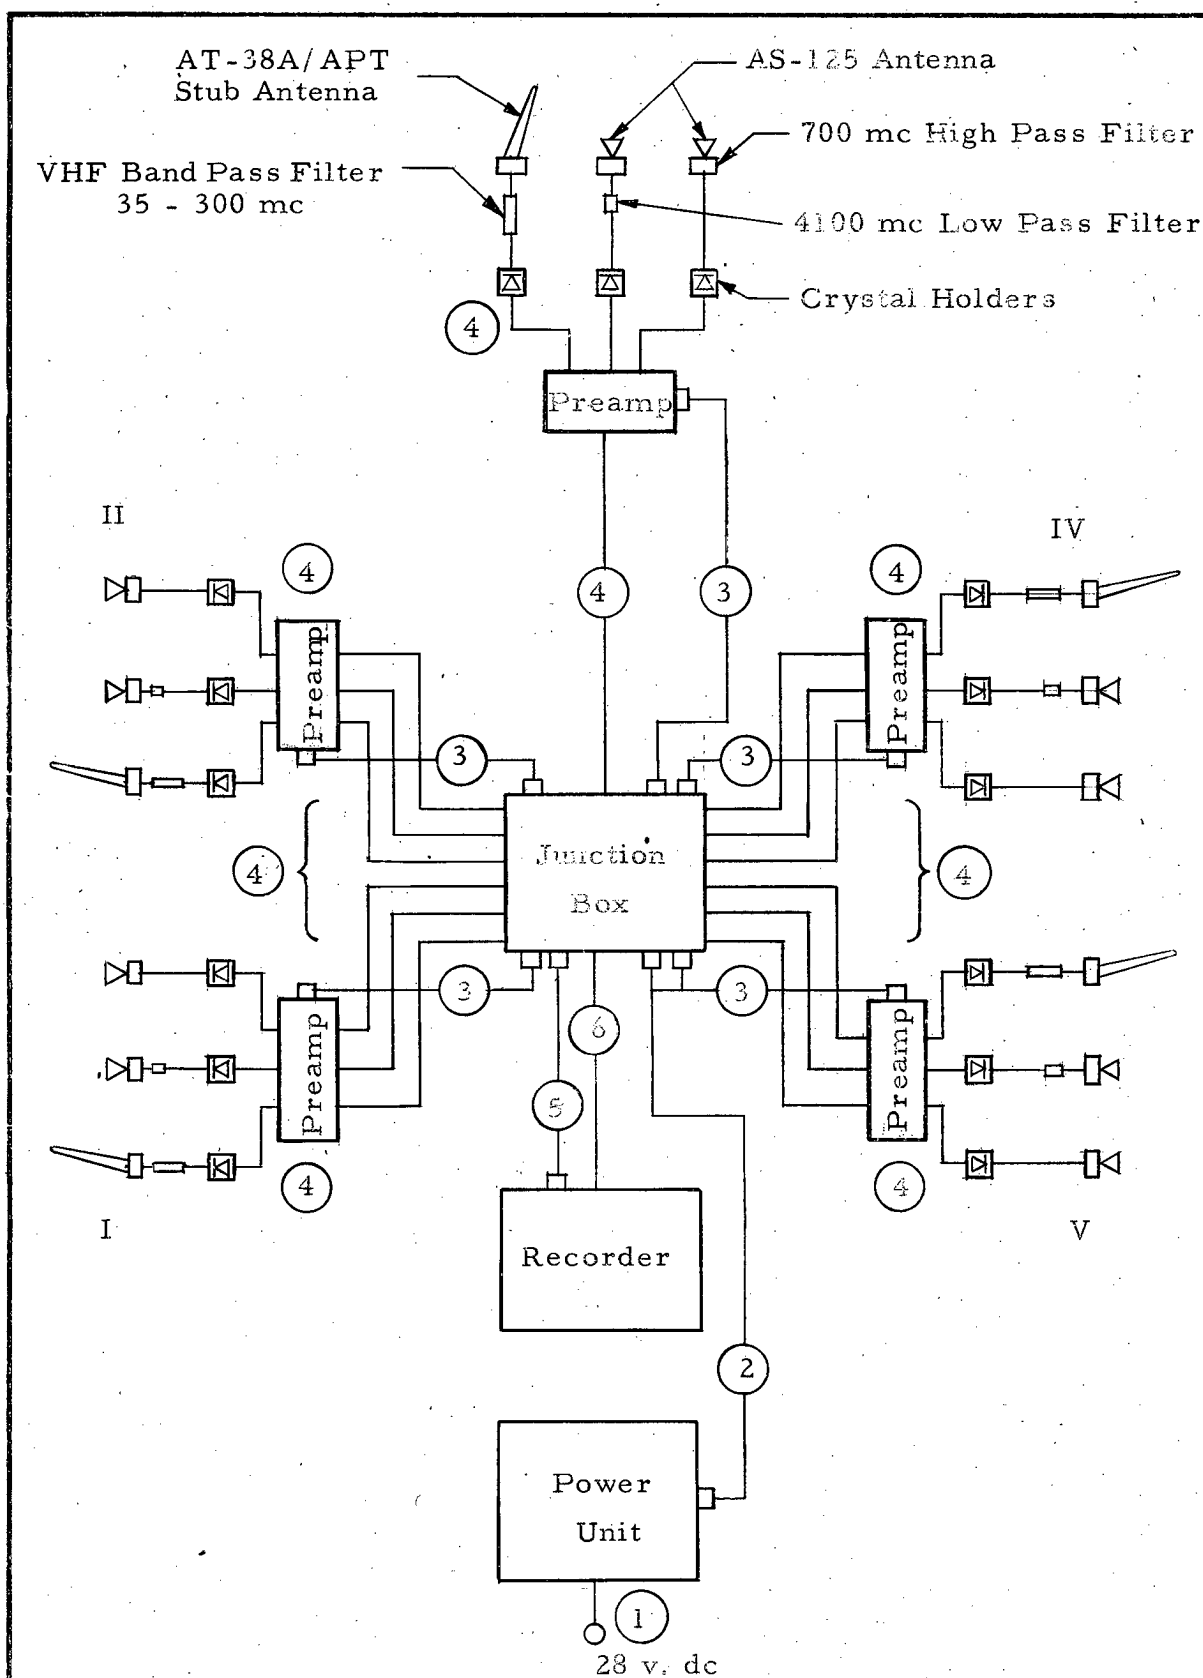

Fig. 1 - Block Diagram of Crystal Video Receiver, Model 3502 M.
The VHF kit used in the model 3502M receiver consists of five AT-38A/APT stub antennas, five VHF band-pass filters, five crystal holders and ten coaxial cables. Fig. 1 shows a block diagram of the complete installation.
1. Disconnect the input cable to Channel A on all five pre-amplifiers at positions I through V. (See Fig. 1).